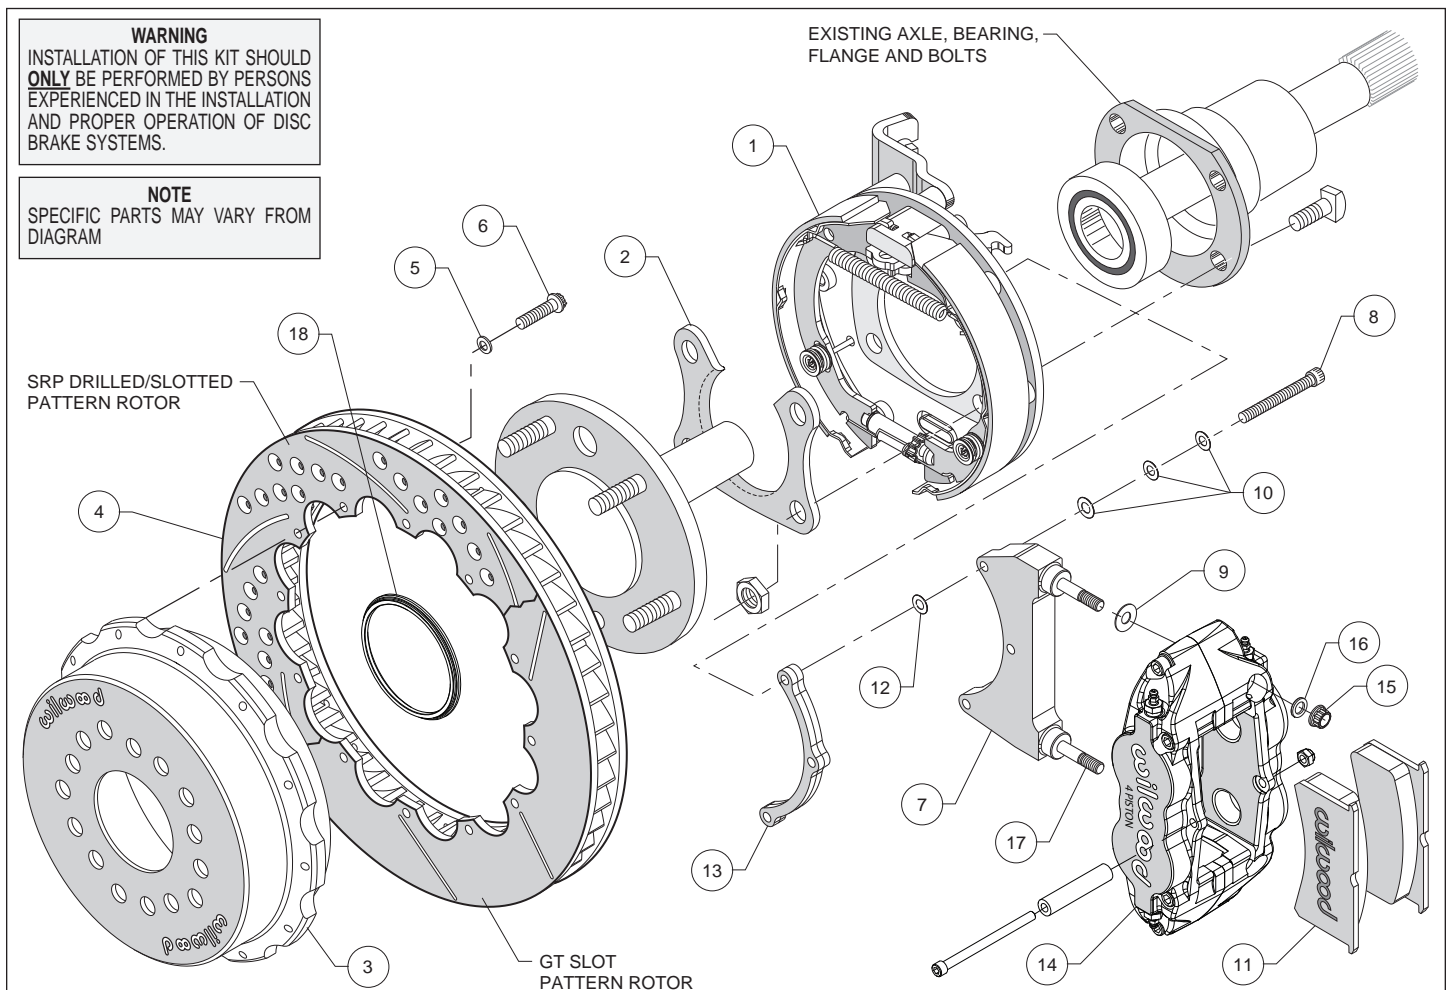
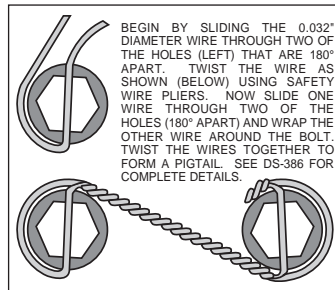

Figure 1. Typical Installation Configuration
Figure 5. Safety Wire Diagram
Assembly Instructions (numbers in parenthesis refer to the parts list and Figure 1 on the preceding pages): **CAUTION:** All mounting bolts must fully engage insert nuts. Be sure to check that all bolts are either flush or protruding through flanged side of insert nut after shimming.
- Orient the bracket assembly (1) as shown in Figure 1 and Photo 1 and slide it onto the axle. Insert the axle and bracket into the axle housing. Ensure that the bracket assembly backing plate fits flush against the axle housing flange.
- Install the bearing retainer (2) with the opening pointing upward and the lip facing inward (toward the bearing), as shown in Figures 1 and 4, and Photo 2. Secure retainer and bracket assembly to the axle housing flange using the Original Equipment Manufacturer (OEM) bolts, washers, and nuts, Figure 1. Apply red *Loctite*® 271 to the OEM bolt threads and torque to OEM specifications.
- **NOTE:** Please reference the caution statement at the beginning of the assembly instructions. The caliper mounting bracket (7) should initially be installed with clean, dry threads on the mounting bolts. Orient the bracket as shown in Figure 1 and Photo 3, and install using
bolts (8) and three flat washers (10). Initially place one .015" shim washer (12) on each bolt between the bracket (7) and spacer (13), Figure 1. Temporarily tighten the mounting bolts. **NOTE:** End of bolt should not exceed inside face of insert. The bracket must tighten squarely against the back side of the bracket kit assembly (1). Later, after the caliper alignment has been checked, the mount bolts will be secured using red Loctite®.
- Orient the rotor (4) and the hat (3) as shown in Figure 1 and Photo 4. Attach rotor to hat using bolts (6) and washers (5). Using an alternating sequence, apply red Loctite® 271 to the threads, and torque to 155 in-lbs. For an added measure of security, the bolts may be safety wired using standard 0.032 inch diameter stainless steel safety wire as shown in Figure 5. Please refer to Wilwood's data sheet DS-386 (available at www.wilwood.com/Pdf/DataSheets/ds386.pdf) for complete safety wire installation instructions.
- Slide the rotor registration adapter (18) onto the axle register on the axle flange with the smaller O.D. facing toward the rotor/hat (3/4), Photo 5. Align the hole pattern in the hat with the stud pattern on the axle flange and slide into place, Figure 1 and Photo 6. **NOTE:** The rotor/hat must fit flush against the axle flange or excessive rotor run out may result. Install three lug nuts (finger tight) to keep the rotor/hat assembly in place while continuing with the installation. **NOTE:** Some OEM and after market axles come with stud sizes larger than 0.50" diameter. Verify stud size and have a qualified machine shop drill the bolt circle of the hat/rotor to the correct stud size, if necessary.
- Lubricate the caliper mounting studs (17) with lightweight oil. Initially place one .035" thick shim (9) on each stud as shown in Figure 1 and Photo 7. Mount the caliper (14) onto the bracket (7) using lock nuts (15) and washers (16), Figure 1. Temporarily tighten the lock nuts and view the rotor through the top opening of the caliper. The rotor should be centered in the caliper, Photo 8. If not, adjust by adding or subtracting shims (12) between the bracket (7) and the spacer (13). Always use the same amount of shims on each of the three mounting bolts. Once the caliper alignment is correct, remove the bracket mounting bolts (8) one at a time, apply red Loctite® 271 to the threads, and torque to 180 in-lb.